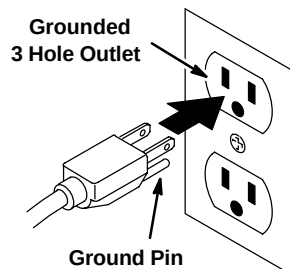

FIG. 9
2. Plug extension cord into a grounded wall outlet (Figure 9)